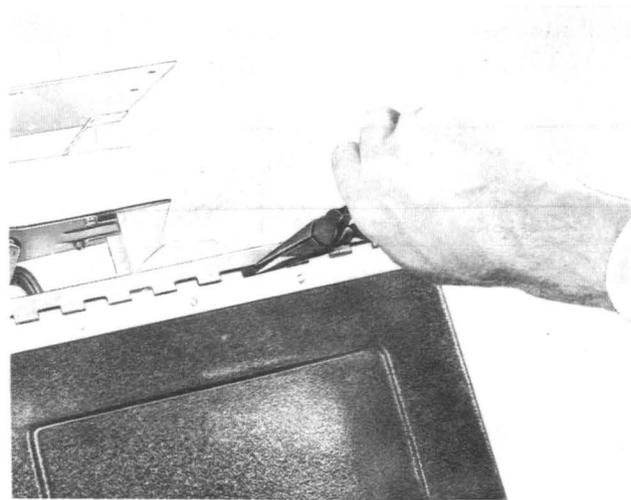

Fig. 26—Removing Hinge Pin From KS-21435, List 10 Directory Cover
- 4.02 Directory covers for the KS-21435, List 10 can be replaced in the field. Remove the hinge pin as shown in (Fig. 26) and replace the cover.